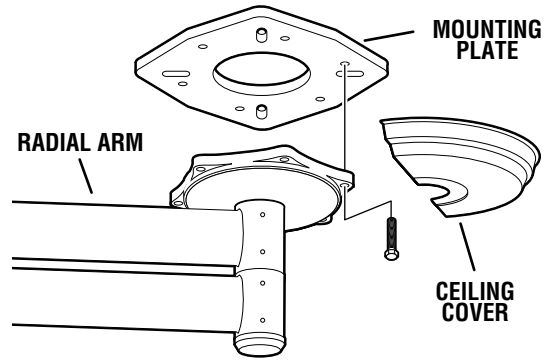

Figure 3. Radial Arm Installation
c. Install the ceiling cover and secure. See figure 3.